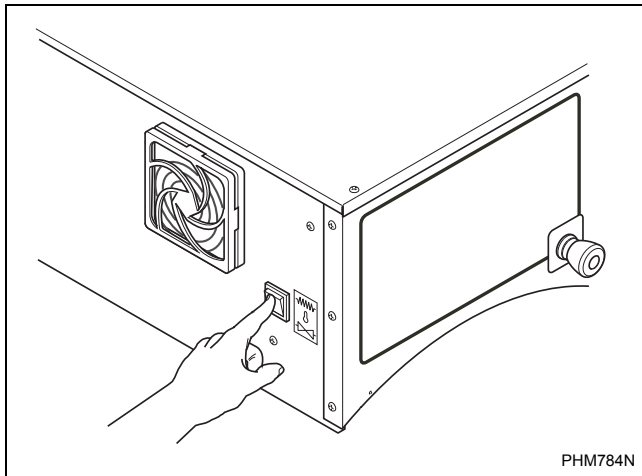

Figure 15
1. To switch between the heating type, locate the switch on the left side of control module. Refer to *Figure 15*.